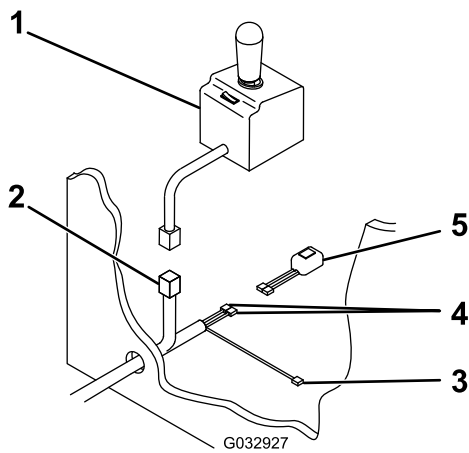

Figure 18
11. Pull the plow controller connector, black/red wire, and 2 black wires into the vehicle cab through the hole in the firewall (Figure 18).
12. Connect the 2 black wires to the headlight toggle switch (Figure 18).